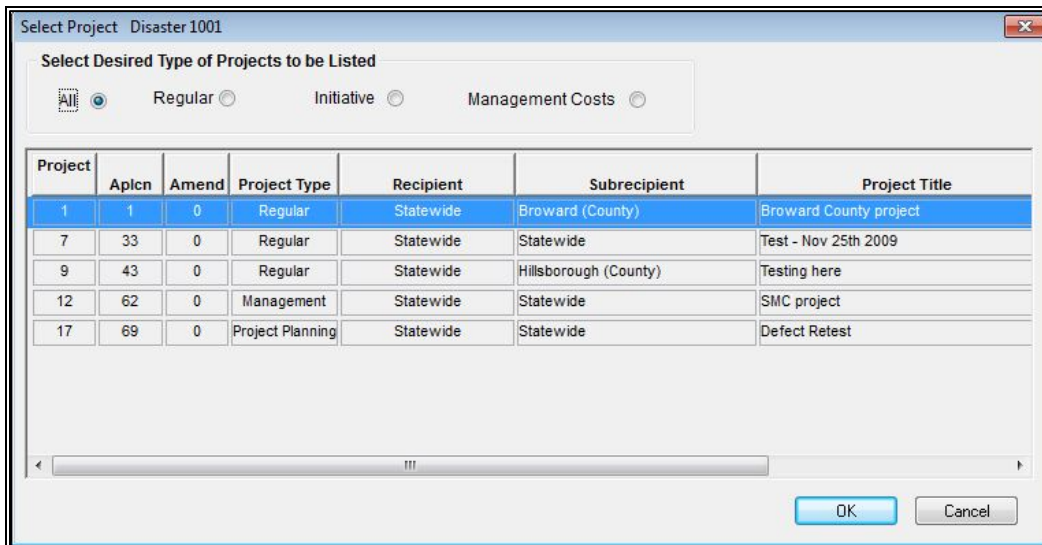

Figure 10-5: Allocations Project List - Left Side
- Click the ADD PROJECT button. The Allocations Project List is displayed (Figure 10-5).